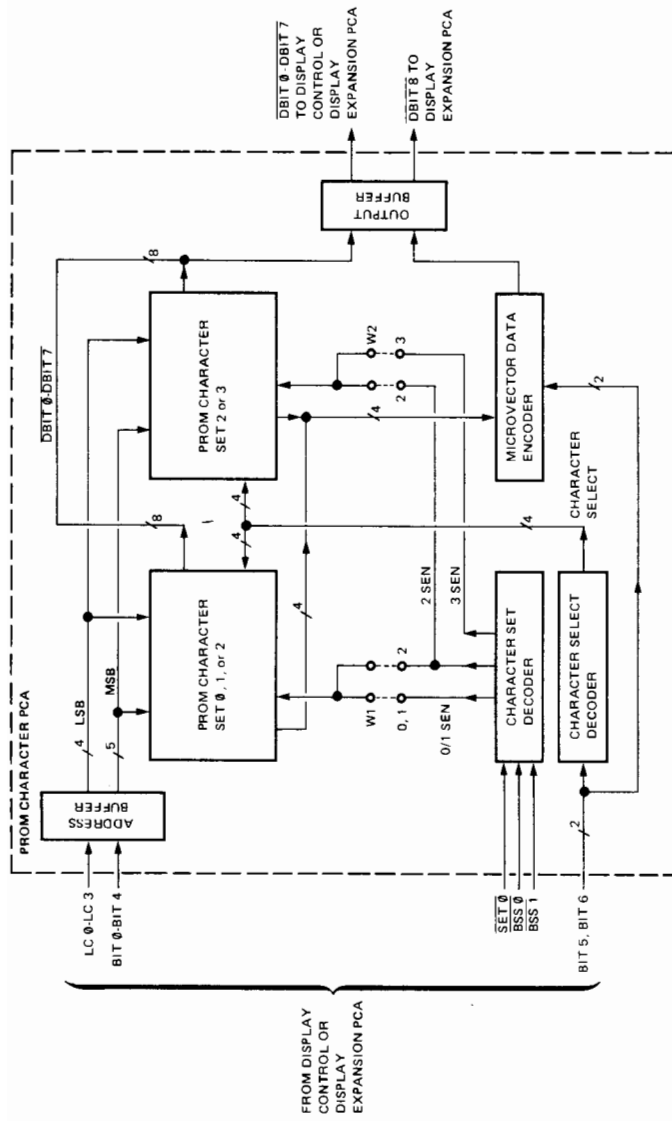

Figure 1
3.0 FUNCTIONAL DESCRIPTION. Refer to the block diagram (figure 1), schematic diagram (figure 2), timing diagram (figure 3), component location diagram (figure 4), and parts lists (02640-60053 and 02640-60070) located in the appendix.